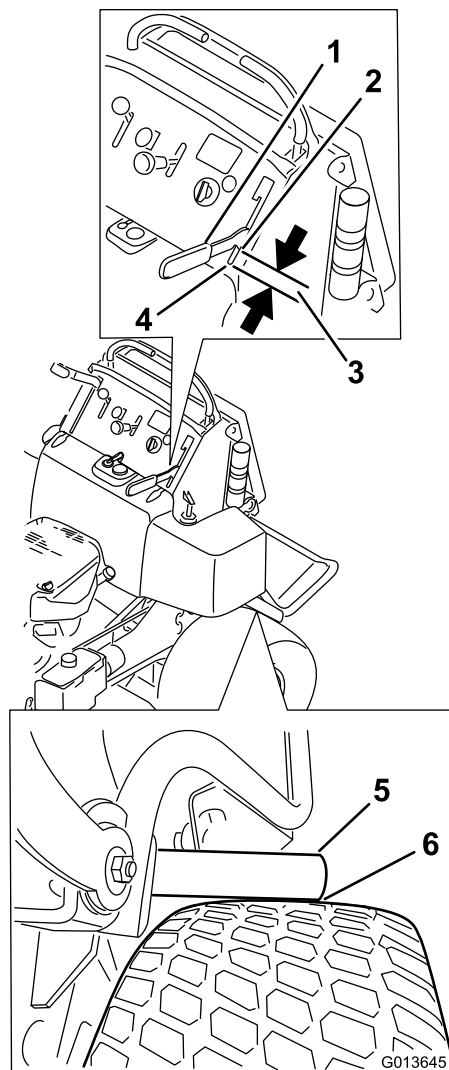

Figure 61
4. Engage the brake lever until the brake bars first contact the tire (Figure 61).
5. Measure the gap from the front of the hand lever to the end of the slot in the control panel when the brake bar contacts the tire. This measurement needs to be 3/4 inch (19 mm). Adjust the brake if needed (Figure 61).